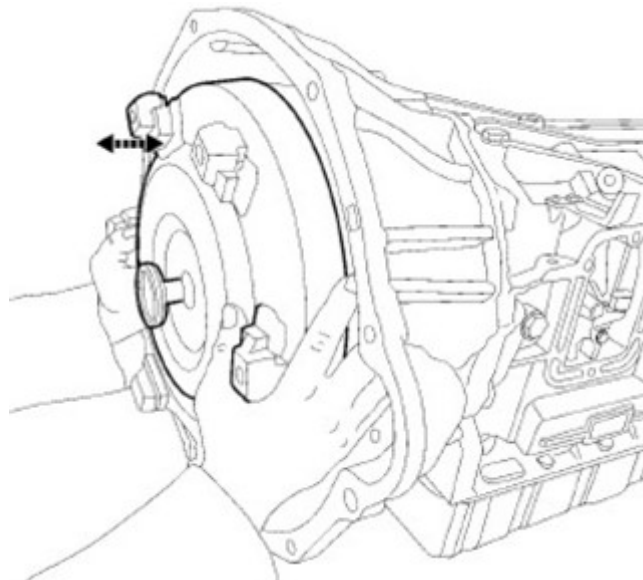

Fig. 2
5. Remove the torque converter from the transmission (Fig. 2) .